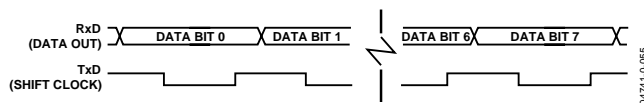

Figure 76. 8-Bit Shift Register Mode
Reception is initiated when the receive enable bit (REN) is 1 and the receive interrupt bit (RI) is 0. When RI is cleared, the data is clocked into the RxD line, and the clock pulses are output from the TxD line as shown in Figure 76.